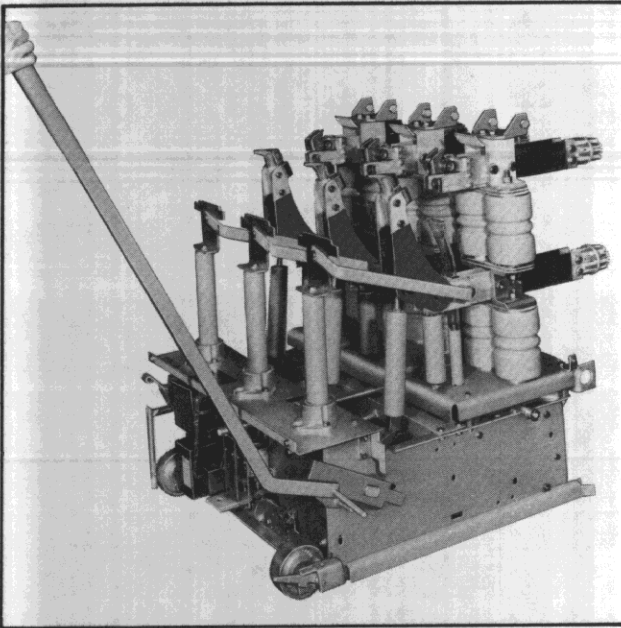

Fig. 33 Closing Breaker with Maintenance Handle (391368)
1.31.1 A MAINTENANCE HANDLE, Fig. 33 is used for manually closing the circuit breaker outside the housing. It also is to be used for maintenance and inspection of the breaker contacts and mechanism. There is an interference bar welded to the handle to prevent its use for closing the breaker when the breaker is in the housing.